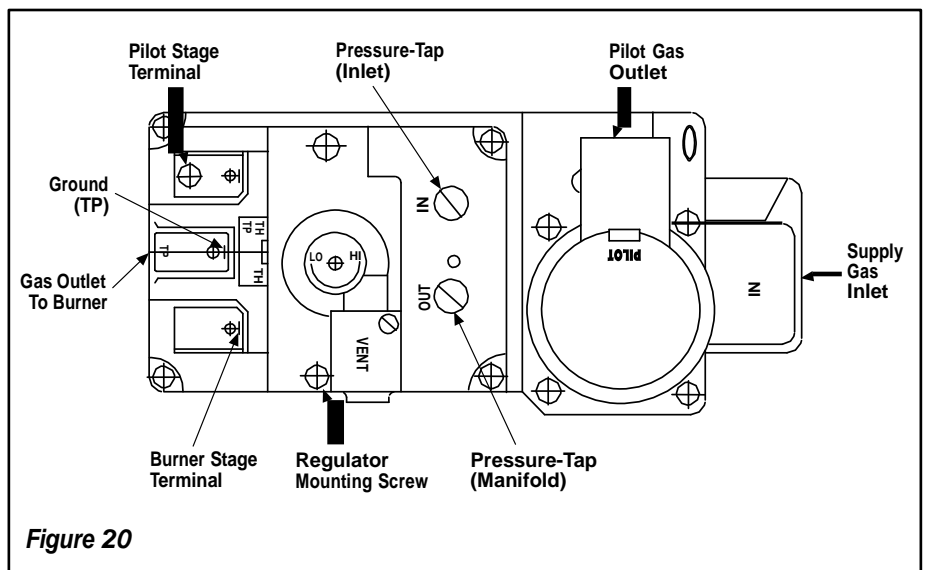

Figure 20
Step 4. Dexen Electronic Valves - See **Figure 20** and the instructions provided with the kit. Remove and discard the two pressure regulator mounting screws. Remove the pressure regulator and diaphragm. Discard all removed components. **Ensure the rubber gasket installed on the back of the replacement pressure regulator is properly positioned.** Install the new pressure regulator using the new screws supplied with the kit. Tighten screws to 25 In. lb. torque.